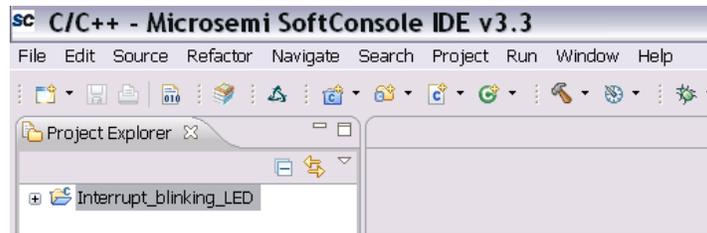

Figure 18 New Project Created
- The created new project is displayed, as shown in Figure 18.